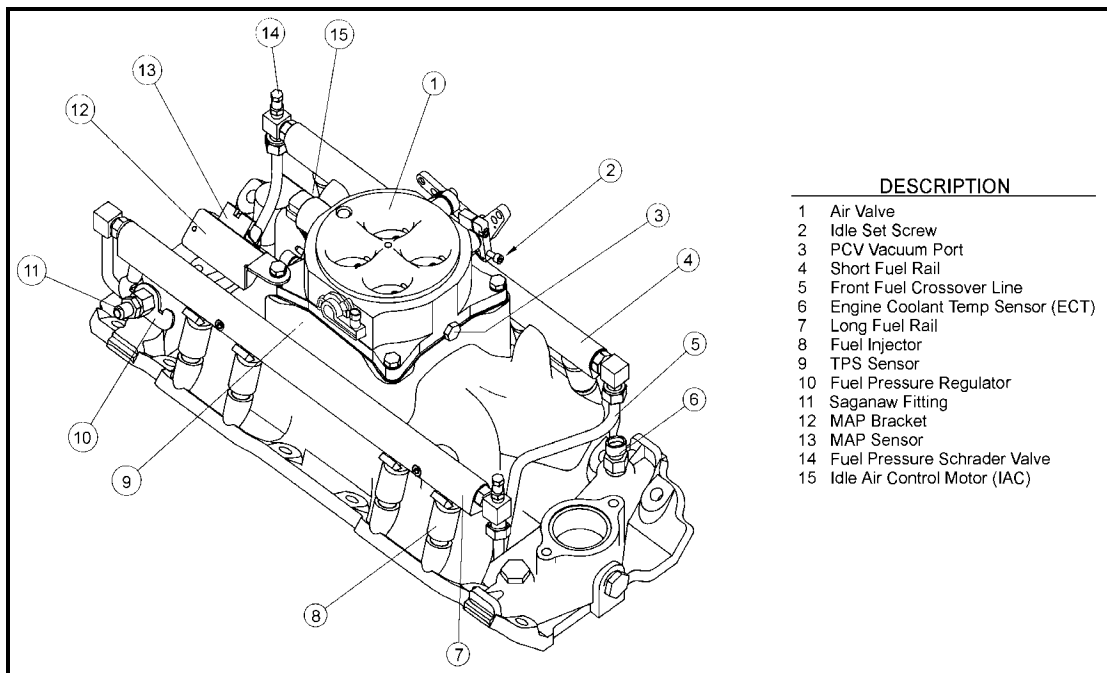

Figure 1
13. Install the schrader valve to the front of the fuel rail if not already installed. Use Teflon tape or liquid Teflon sealer. **See Figure 1.**
15. Next install the throttle body. The throttle body is in a separate box in the kit, which contains the gaskets needed. First install the gasket that matches the manifold base. Next install the steel plate included with the throttle body. Next install the gasket that matches the plate. Install the throttle body with the 4 5/16-18 bolts and washers included. The MAP sensor bracket is attached by the rear, passenger side bolt. Install the MAP sensor first with the two 10-32 x 1" screws and #10 washers. **See Figure 1.** The throttle cable bracket is attached with the rear driver's side bolt. The bracket in the kit works with most throttle cables and transmission cables.